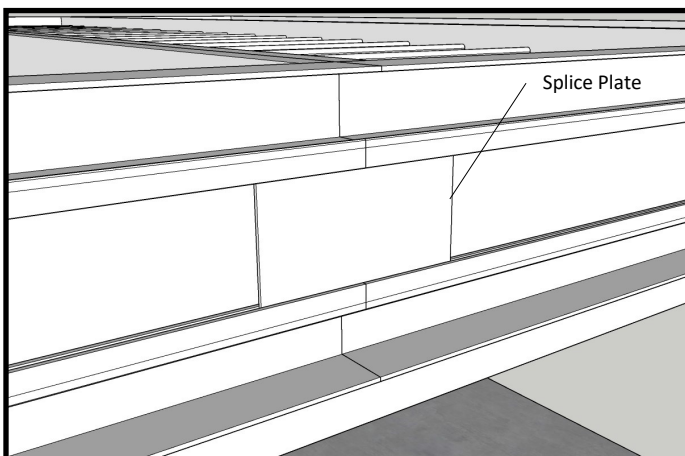

Fig 6
6. Set the Frames (#1) in place as shown in the drawing package. Make sure the Splice Plates (#3) are in position. To snap the frames together, use the same soft padded clamp. Make sure the frames are aligned by positioning the Splice Plates across the seams and secured with a dab of caulk. (see fig 6)